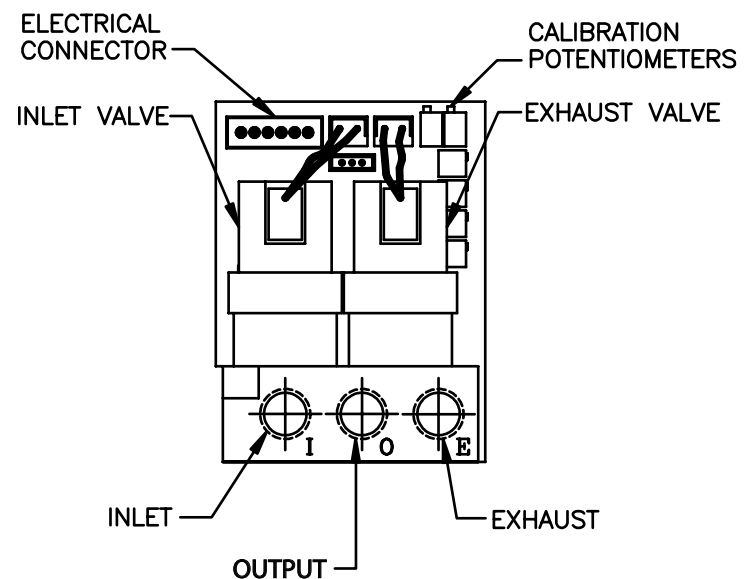

Figure 1
4. On the printed circuit board, locate the two adjustment potentiometers labeled S (span adjust) and Z (zero adjust). See Figure 1.